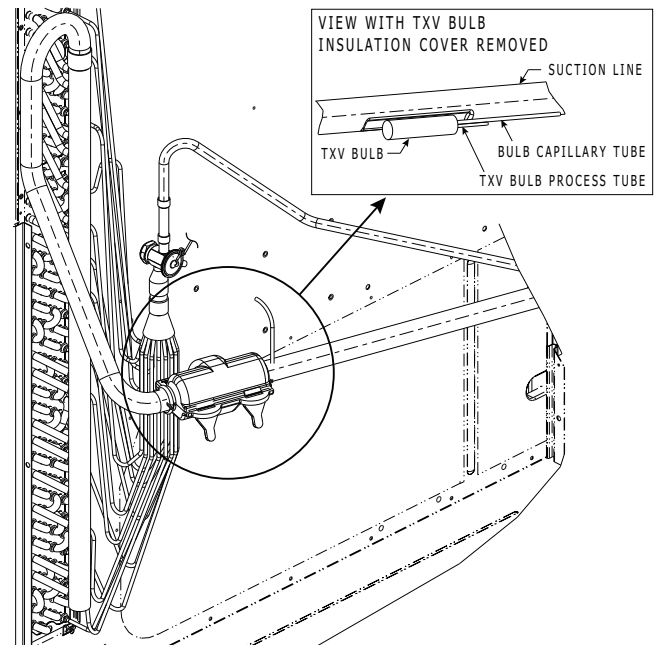

Fig. 23 — TXV Valve and Sensing Bulb Location
8. Attach TXV bulb in the same location where the original (in the sensing bulb indent) was when it was removed, using the supplied bulb clamps. (See Fig. 23.)